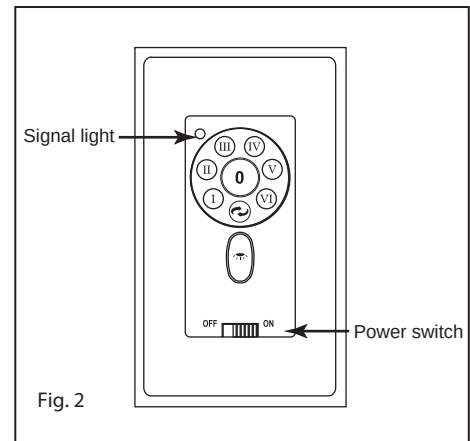

Fig. 2
- 3 Loosen the two security set screws and remove the downrod pin and retaining clip from the coupling on top of the motor assembly. (Fig. 2)
2 Make wire connections from the fan to the receiver unit. For this step use the bundle of 5 wires on the receiver. (Fig. 2)
- 1 Locate 9 blade attachment screws. Slide one blade onto the motor as shown in Fig.2, aligning holes in blade with holes on the edge of the motor.
- 4 Install the wall transmitter on the existing wall outlet box using the screws provided. Attached the wall plate with the mounting screws to finish the installation. (Fig. 2)
- 7 Signal light (Fig. 2)